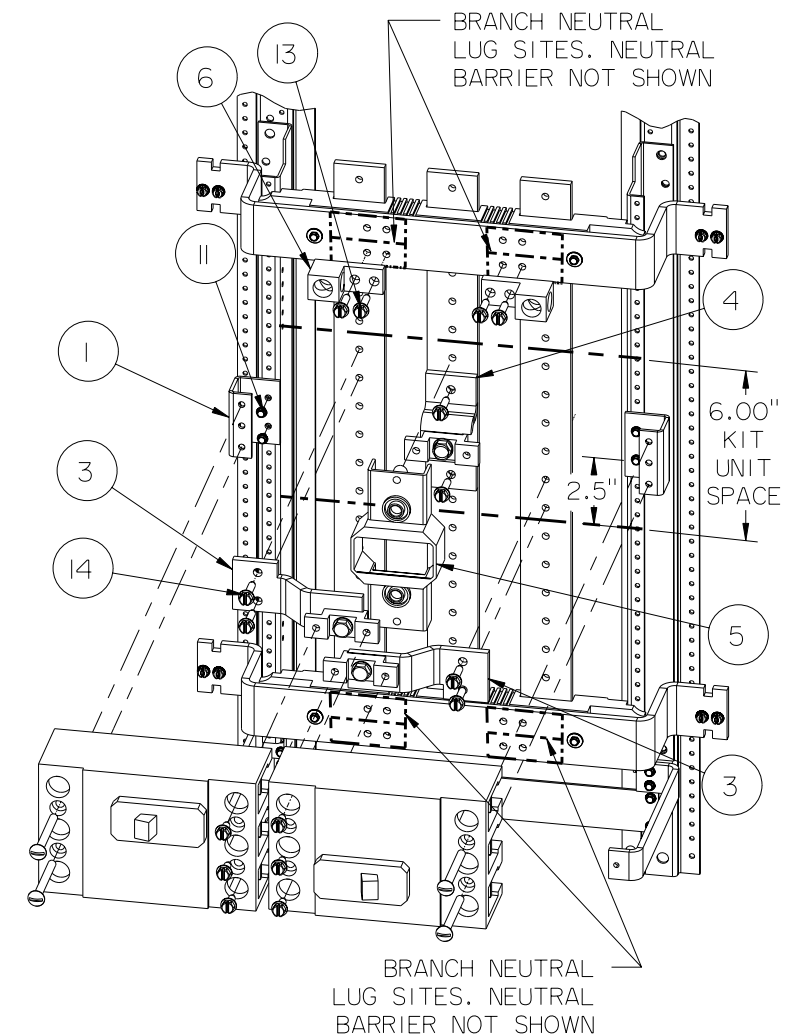

Figure 3
5. Refer to fig. 3. - Fasten the breaker supports (item 1) to the base rails in the center of the 6" kit unit space with four 8-32 Screws (item 11). Fasten the center connector (item 4) to the middle panel bus with two 1/4-20 X 1" screws (item 14). Tighten the screws to the torque values on the back of the dead front. Install the QJ branch barrier (item 5), centered over the installed connector (item 4). Insert the barrier's two mounting pins completely into the corresponding holes on the middle panel bus. Position two Type B outer connectors (item 3) at the two ends of the barrier (item 5) and fasten them to the outer panel bus parts with four 1/4-20 X 1" screws (item 14).
7B. TO INSTALL 2-POLE BREAKERS, breakers must be placed in the highest position on the left side of the unit space and in the lowest position on the right side of the unit space so that the operating handles fall into the same positions as the 3-pole breakers shown in Fig. 3. Position a left side mounted breaker, with its load side mounting hole aligned with the upper hole in the left side breaker support (item 1). Bring the line side breaker pads into contact with the upper two connectors (upper item 3 & item 4). Position a right side mounted breaker, with its load side mounting hole aligned with the lower hole in the right side breaker support. Bring the line side pads into contact with the lower two connectors (item 4 & lower item 3). Fasten each breaker to its support with one 1/4-20 X 2-1/2" machine screw (item 15). Do not tighten until the bus connections are made. Fasten each breaker's line side pads to the connectors with two 1/4-20 X 1" screws (item 14).
8. If this kit is installed in a panel with a neutral, fasten the two branch neutral lugs (item 6) to any of the eight indicated sites on the upper and lower neutral cross bus parts with four 1/4-20 X 3/4" Screws (item 13).